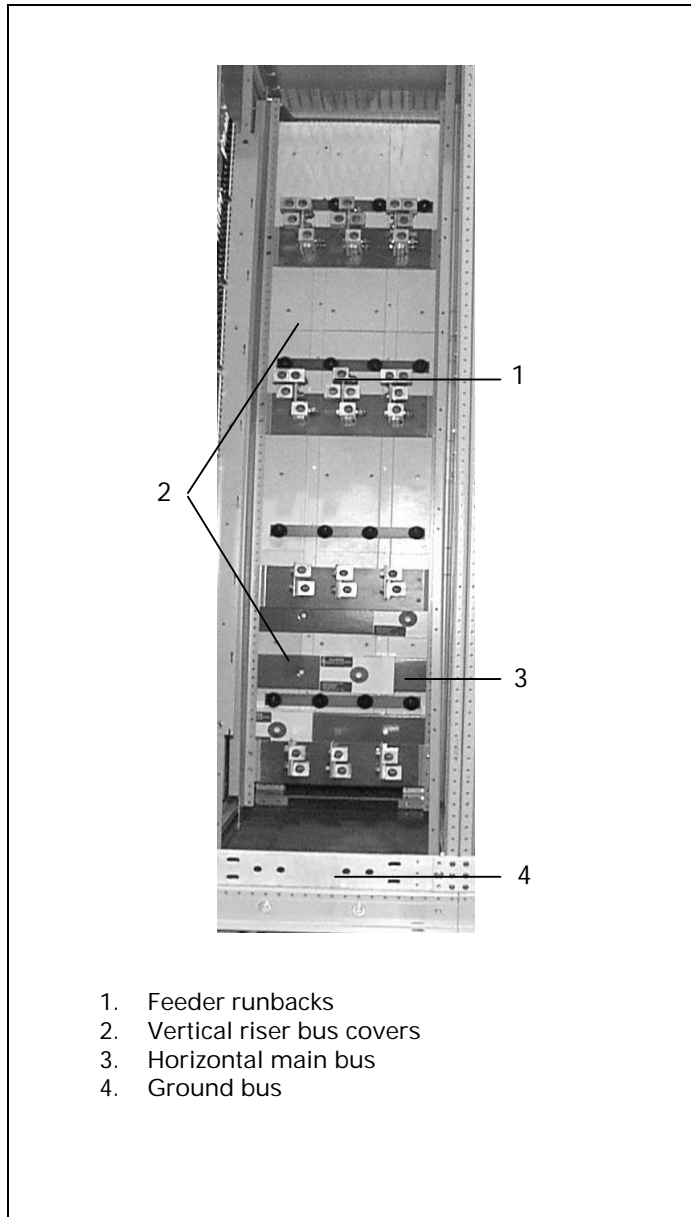

Fig. 3-21. Cable termination compartment
All General Electric Entellisys switchgear sections are grounded to the internal equipment ground bus (4), Fig. 3-21, located at the bottom of the cable compartment.